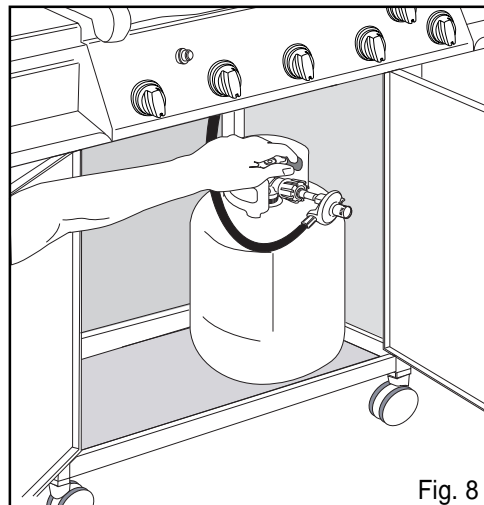

Fig. 8
3. Turn on the propane gas supply valve at the tank (1 to 2 turns) or turn on the main natural gas supply valve (see Fig. 8).